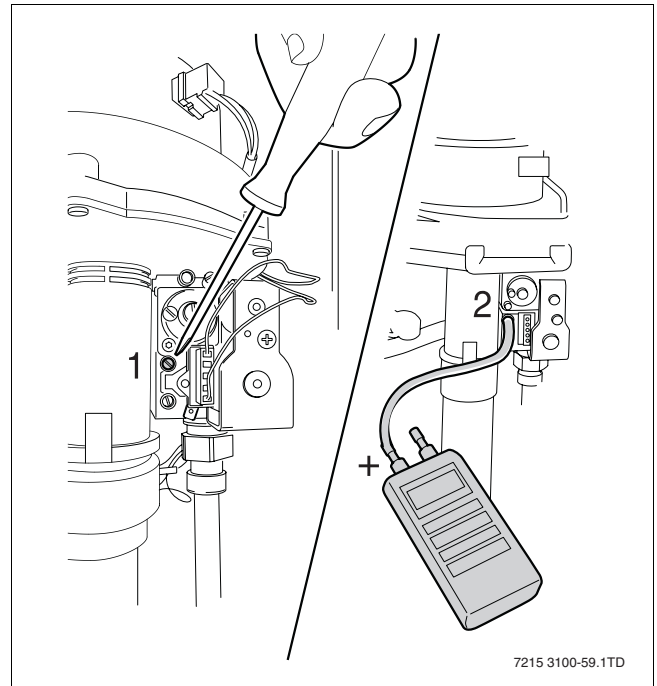

Fig. 59 Check the gas/air ratio
- Open the top measuring nipple (→ fig. 59, item 1) two turns.
- Connect a tube from the "+" side of the pressure gauge to burner-pressure testing nipple (→ fig. 59, item 2).
- Tighten the screw on the burner-pressure testing nipple (→ fig. 59, item 1).